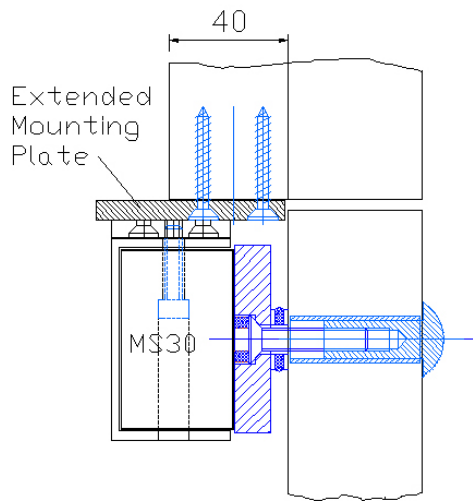

fig. 2 Outward opening door with narrow 'reveal' (approx. 40mm)
- For fig. 2 remove mounting plate from magnet housing and attach to special extended mounting plate the position as 1) above.